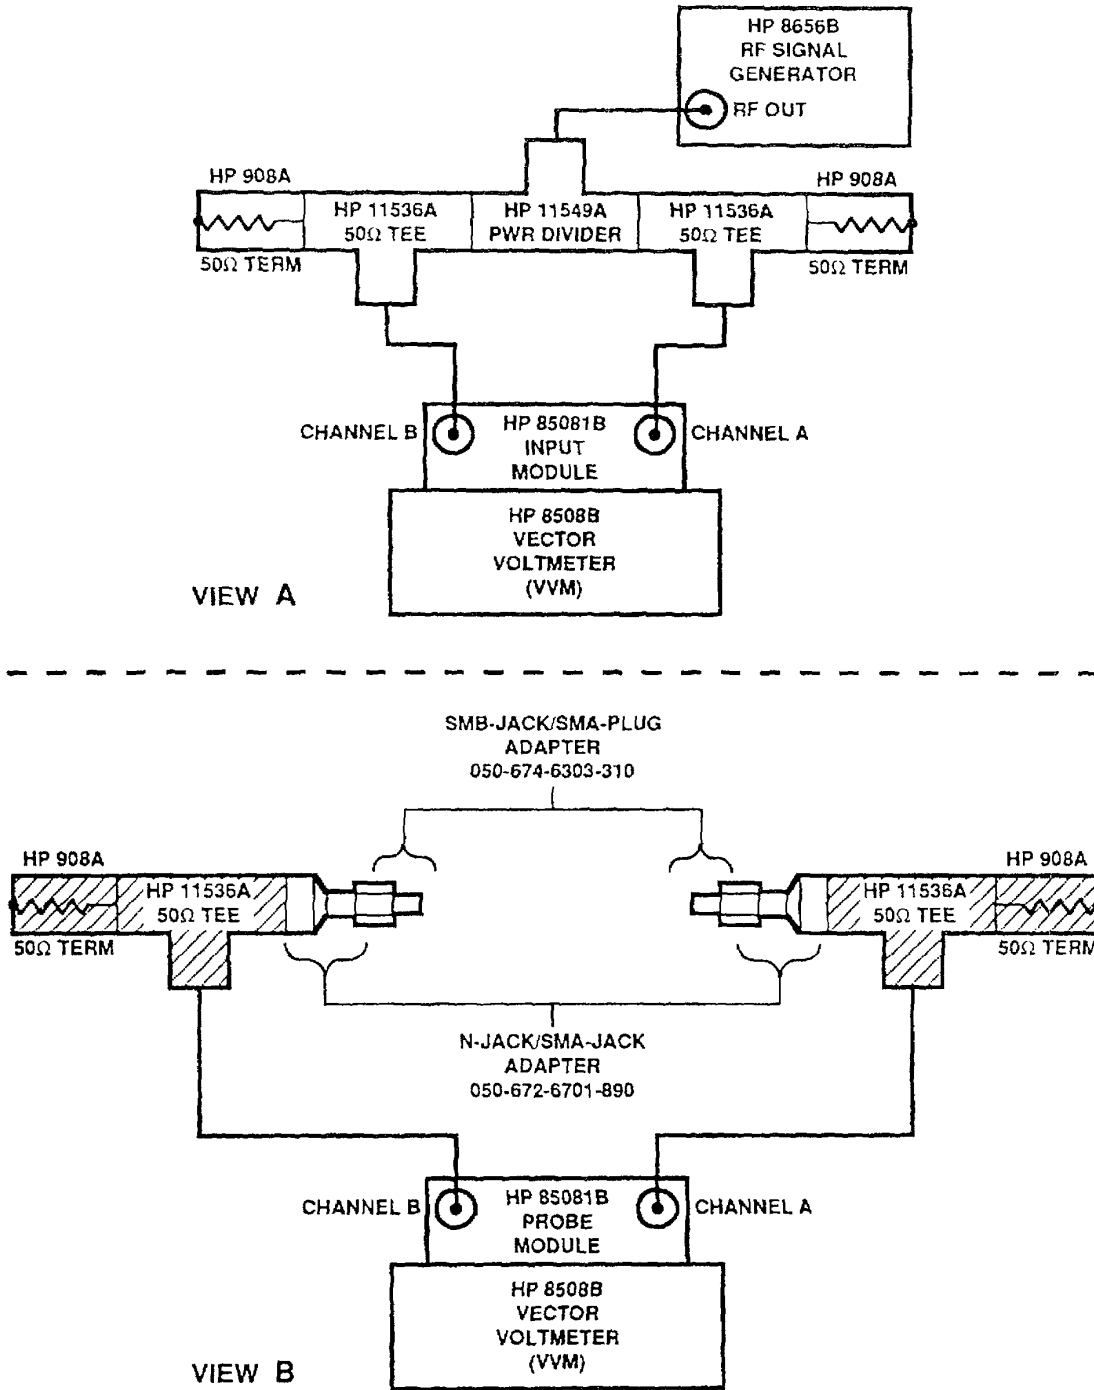

FIGURE 5-2 CALIBRATION SETUP
- r Connect VVM as shown in figure 5-2 view A. Make sure all cable connections are tight.
- u Remove power divider and connect adaptors to VVM probes as shown in figure 5-2, view B.
- v Remove W3 from IFP J2 (A) and connect VVM reference probe (channel A) to W3.
- w Remove W5 from IFP J5 (C) and connect VVM measuring probe (channel B
- x Remove W4 from ESTS J4 (B) and W6 from ESTS J6 (D). Connect 50 ohm loads to ESTS J4 and J6.